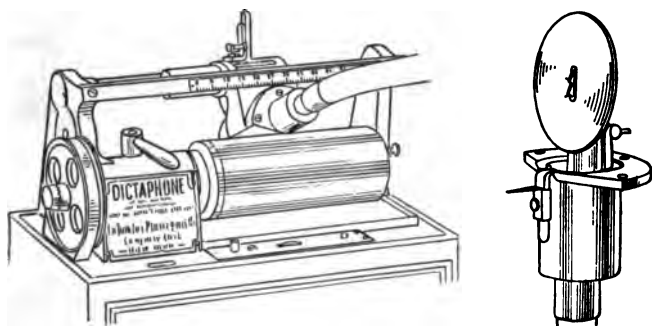

FIG. 374.—Cylinder form of phonograph and diaphragm with recording and reproducing points.
**406. The phonograph.** The phonograph (Fig. 374), which was invented by Thomas Edison, is a remarkable machine
vibrate in such a way as to reproduce the original sounds. In the machine shown in figure 374, the sharp and the round-ended points are both mounted near the center of the same diaphragm, as shown at the right. The diaphragm can be moved forward and back a little so that only one of these points touches the cylinder at any time.